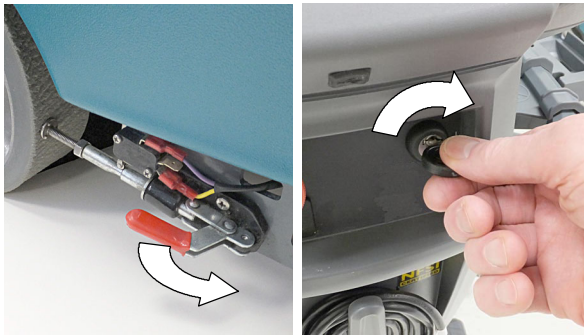

FIG. 32
1. Release the parking brake lever, if equipped (Figure 32)
2. Turn the key to the on ( I ) position (Figure 32).